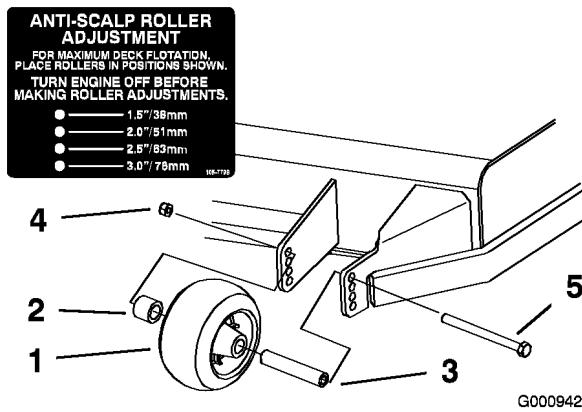
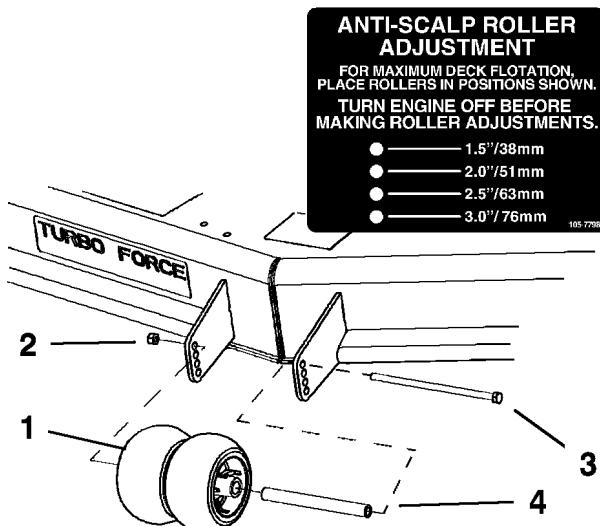

Figure 20
Figure 21
3. After adjusting the height-of-cut, adjust the rollers by removing the flange nut, bushing, spacer, and bolt (Figure 20, Figure 21 and Figure 50).
Note: The two middle rollers will not have a spacer (Figure 21).
5. Install the flange nut bushing, spacer, and bolt. Torque to 40-45 ft-lb (54-61 N•m) (Figure 20, Figure 21 and Figure 50).